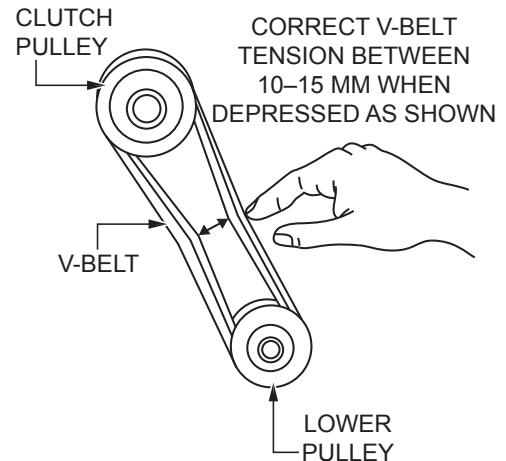

**Figure 21. V-Belt Inspection**
1. Inspect the V-belt (Figure 21) to determine if it is frayed, peeling, full of tiny cracks, has pieces of rubber missing, or is otherwise damaged.
2. Inspect the V-belt (Figure 21) to determine if it is oil-soaked or glazed (a hard, shiny appearance on the sides of the belt). Either of these conditions can cause overheating of the belt, which may weaken the belt and increase the danger of it breaking.